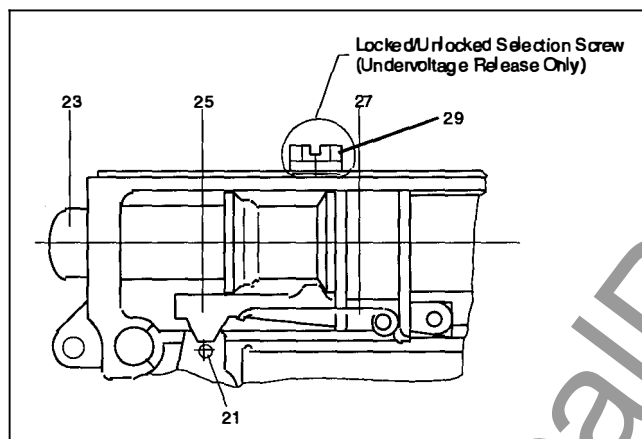

Figure 12. Latch Details (shown charged).
A secondary shunt release (extra trip coil) is used for electrical opening of the circuit breaker by protective relays or manual control devices when more than one trip coil is required. The second trip coil is generally connected to a separate auxiliary supply (DC or AC) from the control supply used for the normal trip coil. Undervoltage Release (27) (Figures 12 and 13).